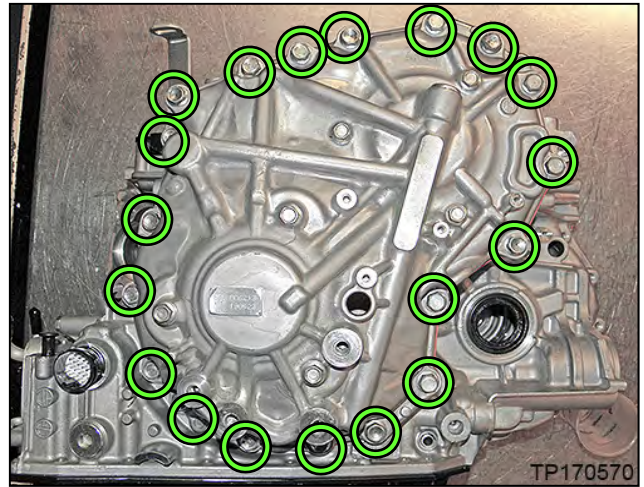

Figure 76
52. Remove the nineteen (19) side cover bolts (Figure 76).